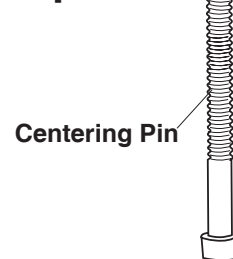

Figure 6
2. Attach the upper spring retainer to the beam using the new centering pins supplied (Figure 6).